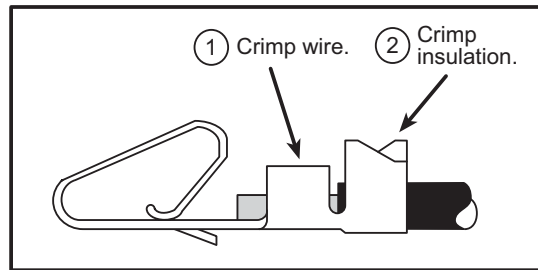

Figure C-1. Crimp Wire in Crimp Terminal
3. Position the wire in the crimp terminal as shown in Figure C-1.
4. Use a crimp tool or pliers to first crimp the bare wire, then the insulation as shown in Figure C-1.